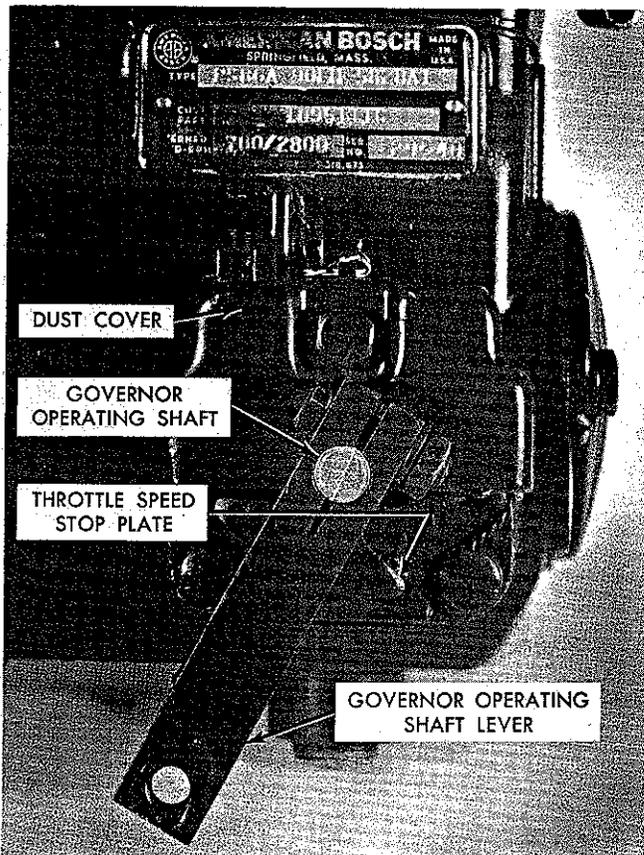

Figure 39
plate. The governor speed operating lever shaft is installed in the correct position when the injection pump is calibrated, as shown in Figure 39. Any repositioning of this operating lever shaft will not allow the injection pump the ability to deliver the required calibrated amount of fuel to the engine through the engine speed range.
- (1) Remove the dust cover from the governor operating shaft stop plate assembly, Figure 39. This will provide access to the high speed screw for adjustment.